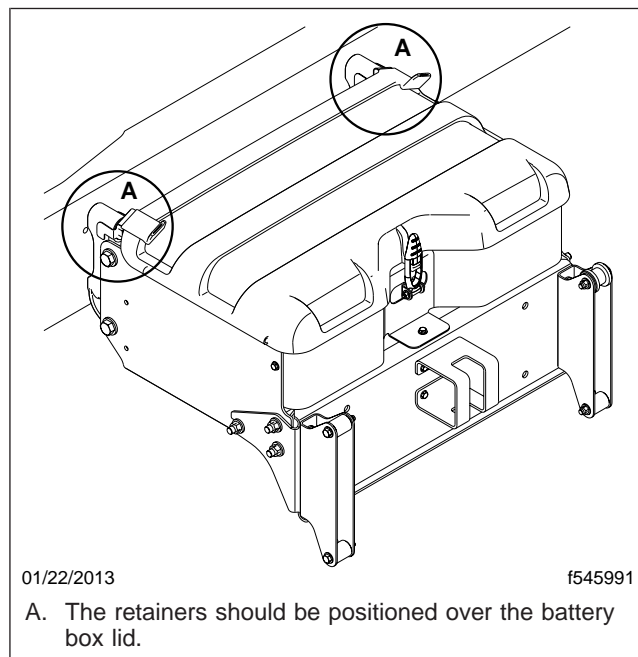

Fig. 3, Battery Box Retainer Installation
6. Install the battery box lid so it fits securely over the seals. See Fig. 3.